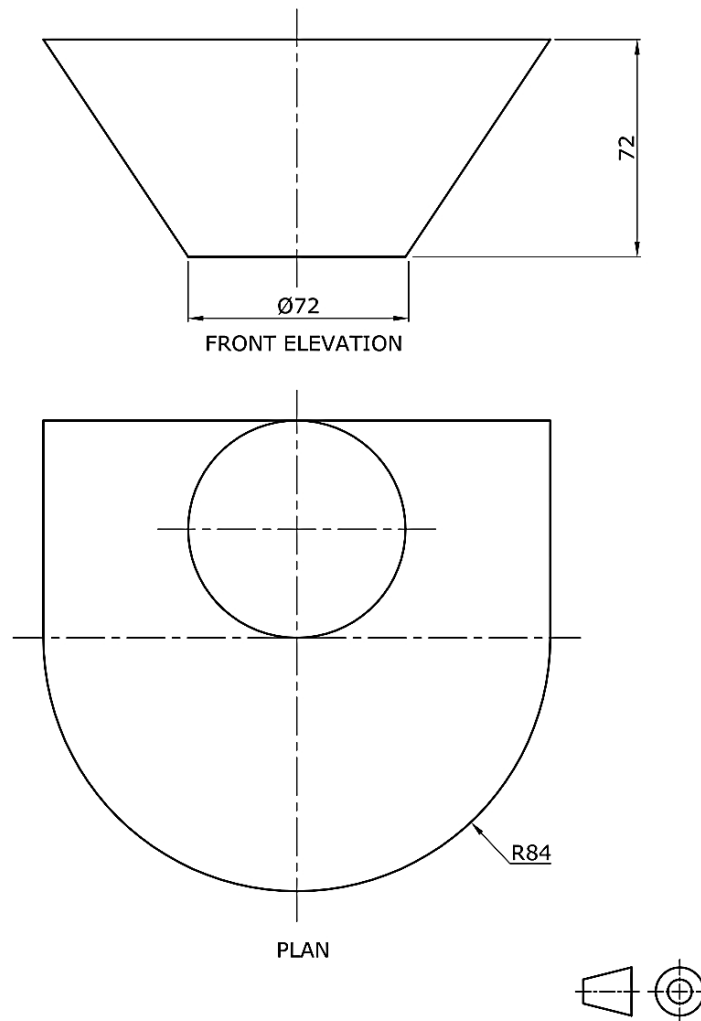

Figure 5b
a) Copy, full size, the two views shown in Figure 5b. (2)
b) Show on the two views drawn, how you intend to divide the transition piece for the surface development. Label the quadrilateral and triangles using letters and numbers. (2)
c) Using a clear acceptable method, find the true lengths for the pattern. (3)
d) Construct, half the surface development of the pattern. (6)